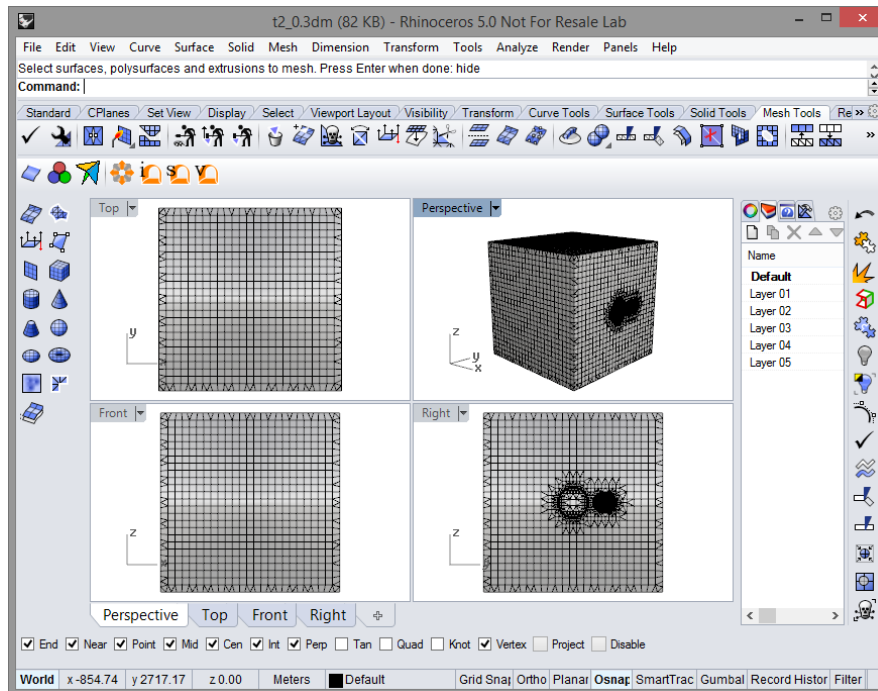

Figure 97: Preview of the surface mesh
2. While the original solid model is still selected, type **_Hide** so the mesh is the only object visible in Rhino model (Figure 97).